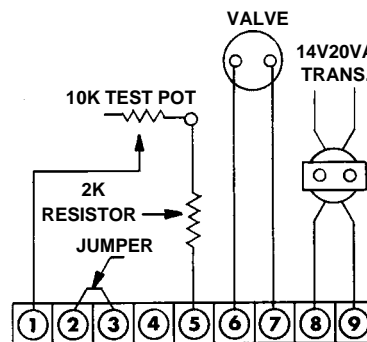

Figure 2
1. Turn power OFF, wire system (per Figure 2 below), turn power ON.